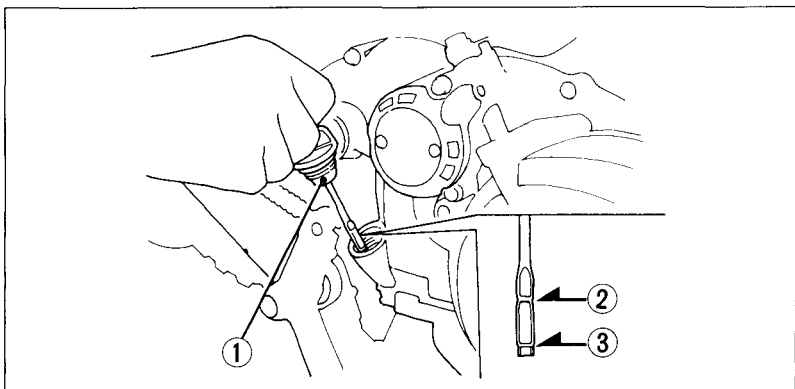

Fig. 4-10
4. After a few minutes, remove the oil filler cap/dipstick (Fig. 4-10) from the right crankcase cover and wipe it clean.
5. Insert the dipstick without screwing it in, then remove the dipstick and check the oil level. The oil level should be between the upper level mark (2) and the lower level mark (3) on the dipstick.
1. With the FOURTRAX on level ground, remove the oil filler cap/dipstick from the right crankcase cover (Fig. 4-10).